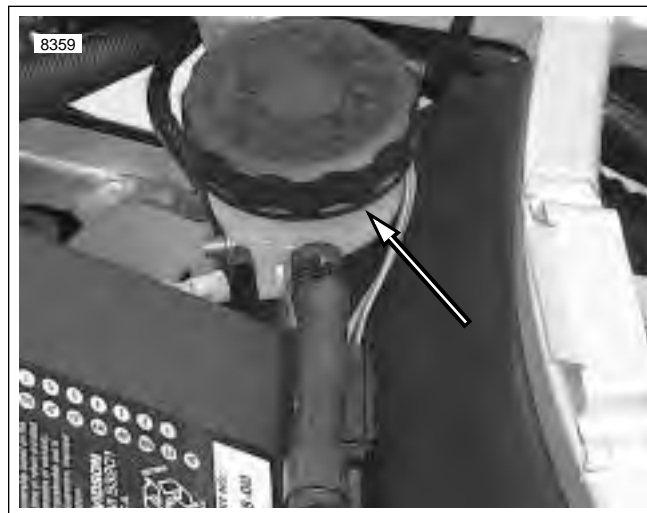

Figure 2-62. Rear Reservoir
4. See Figure 2-62. Verify proper fluid level in reservoir.